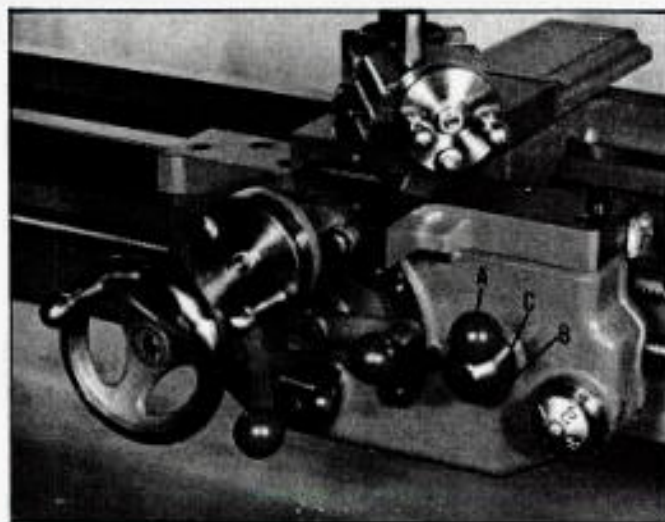

Fig. 29.
1. Close the half-nuts by turning lever (A) Fig. 29, clockwise as far as it will go.
2. Loosen two set screws (B) Fig. 29, allowing hub (C) to turn freely on shaft. CAUTION: To retain the stop parts of the hub in their proper place, always keep the hub (C) against the apron.
3. With the half-nuts closed, move lever (A) Fig. 29, counterclockwise a few degrees and retighten set screws (B).